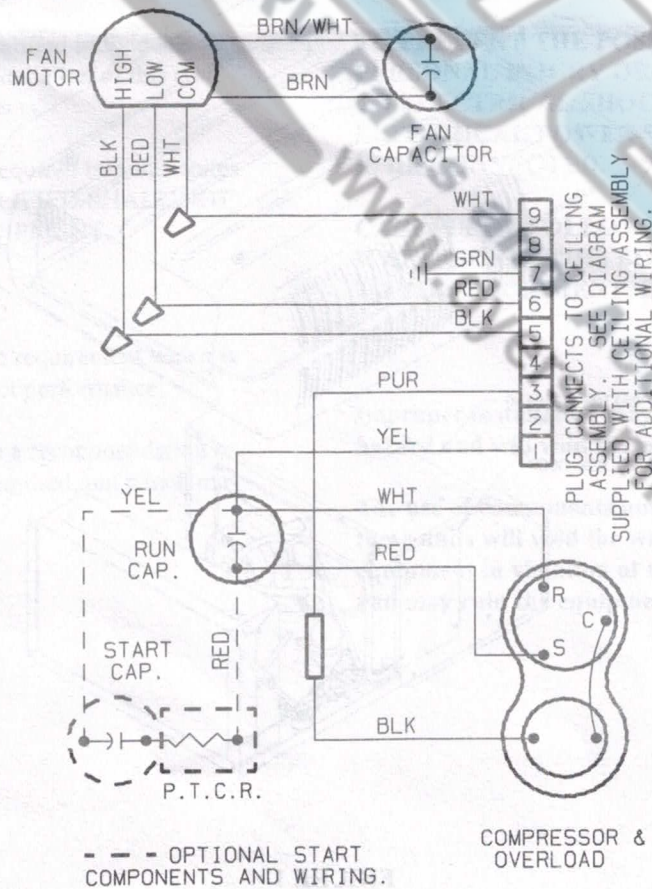

FIGURE 3
3. Verify wiring per the wiring diagram shown in Figure 3.